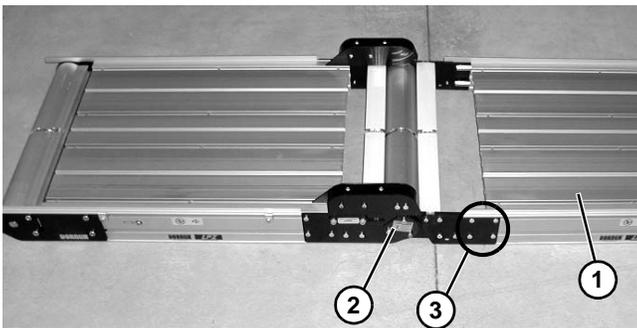

Figure 8
- Slide frame (**Figure 8, item 1**) into lower knuckle (**Figure 8, item 2**). Tighten screws (**Figure 8, item 3**) to 60 in-lb (7 Nm) on both sides of conveyor.